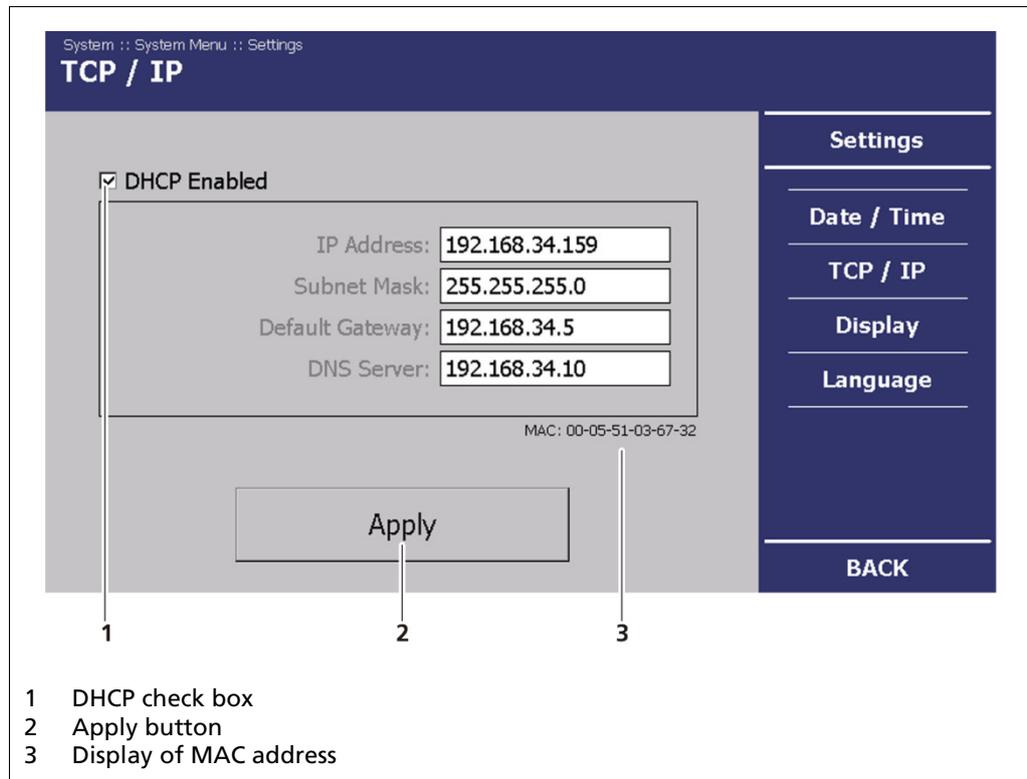

Fig. 27 System Menu, Settings - TCP/IP
In the event of an automatic assignment of the IP address by a DHCP server, you can only look at the given IP address. Modification of the IP address is then blocked. On this menu, you can also read the MAC address of the device (Fig. 27, Item 3).
- ▶ If you have put a tick next to <DHCP Enabled> (Fig. 27, Item 1), then check your applied network settings!
In the **System Menu | Settings** click on **<TCP/IP>** (Fig. 27, Item 4), to change the network settings.